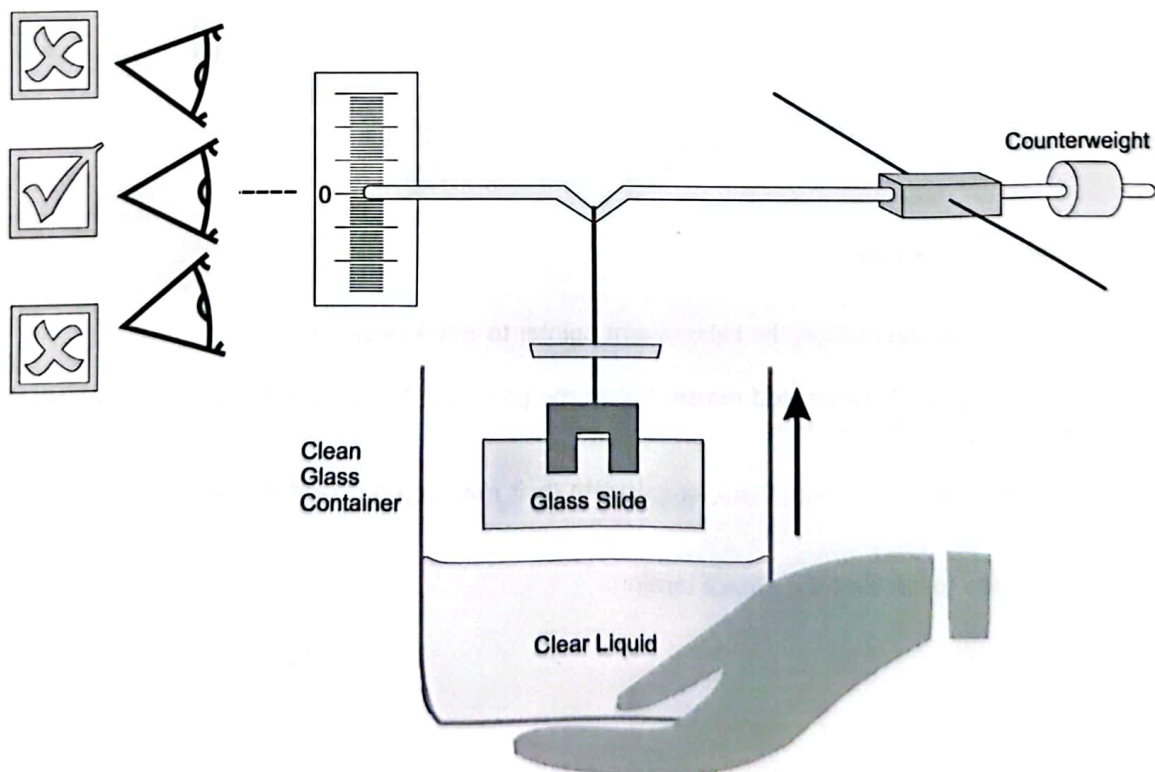

Figure 9 Lift the Container
- 6) As shown in Figure 9, raise the container until the edge of the glass slide is submerged in the test liquid.